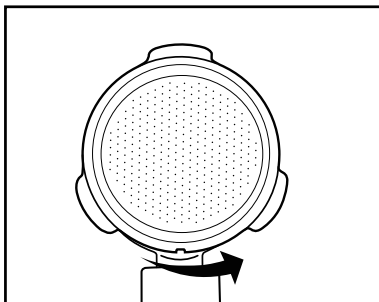

Fig. 2
- Then turn the large **15** or small espresso sieve **16** slightly to ensure it cannot fall out (see Figure 2).